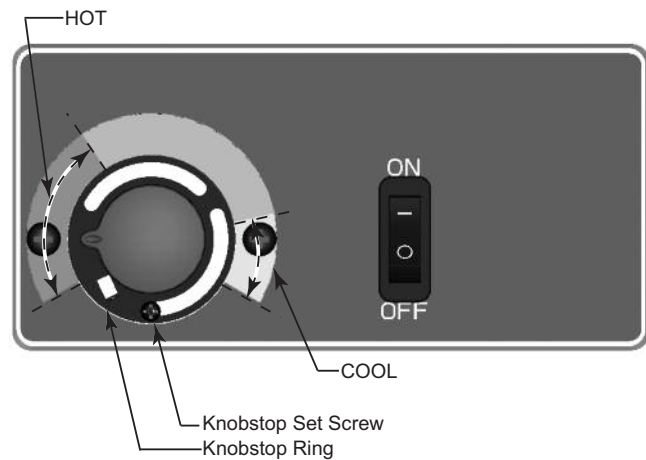

Fig. 19: Water Temperature Thermostat
**NOTE:** If it is necessary to replace any of the original wiring, use 105°C wire or its equivalent, and/or 150°C wire or its equivalent, like the original wiring. See Figures 19 and 20 for wire ratings.
The thermostat is fitted with a means of limiting the upper temperature limit below the maximum level. The knob stop adjustment ring shown in Fig. 19 is adjustable by loosening the set screw, rotating the knobstop ring to the desired location, and retightening the set screw.